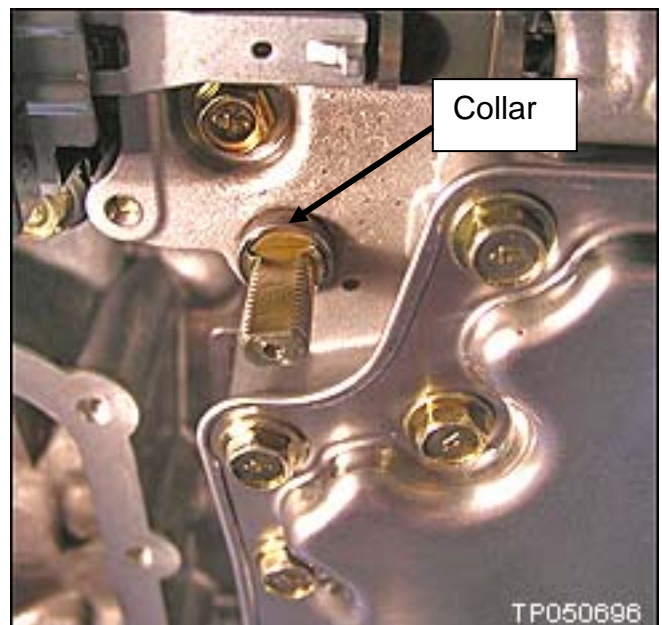

Figure 5
16. Re-install the collar on the manual shaft (see step 3, Figure 5).